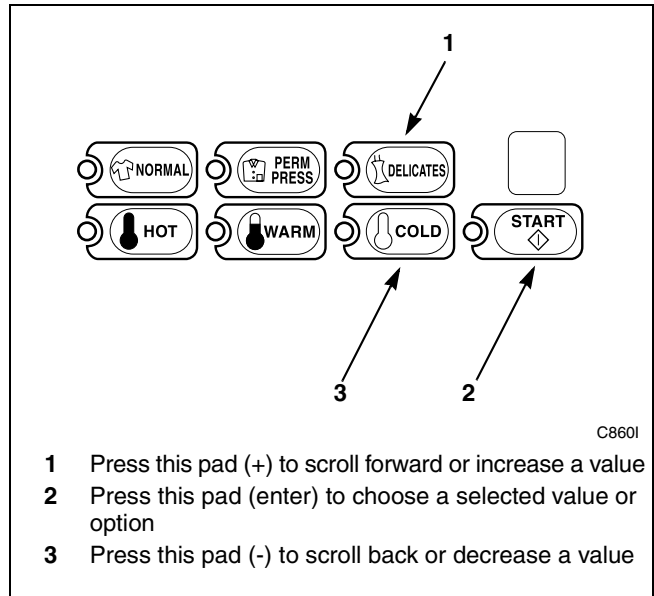

Figure 119
5. Press the DELICATES (+) or the COLD (-) keypad to increase or decrease the day of the month until correct. Refer to *Figure 119*.